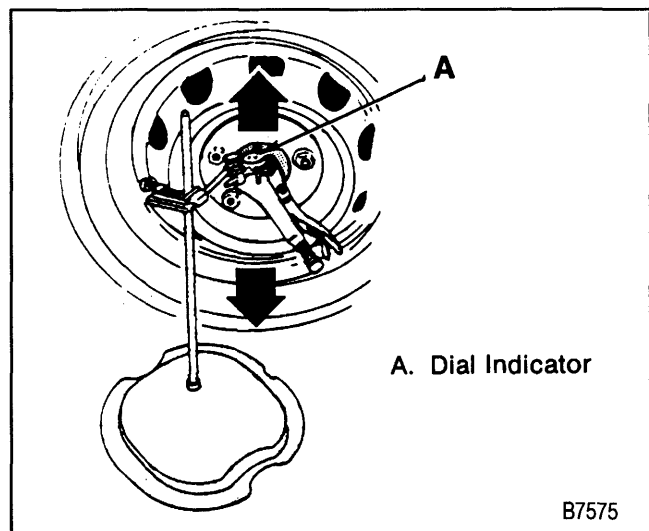

Figure 3—Dial Indicator Position
- With the vehicle on the jack stands, place a dial indicator against the spindle to show vertical movement (figure 3).